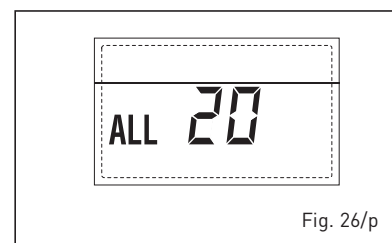

Fig. 26/p
– **ANOMALIA GUASTO Sonda MANDATA PRIMA ZONA MISCELATA “ALL 21” (fig. 26/q)**